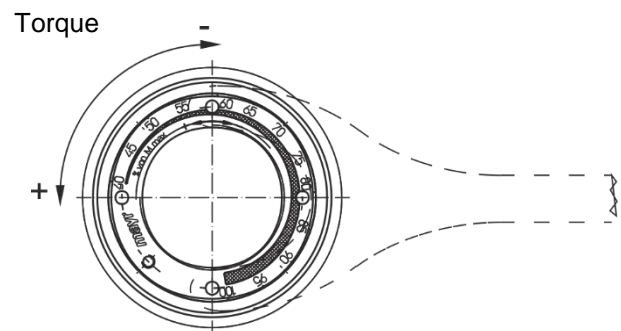

Fig. 10
- b) Loosen the 4 locking set screws (7.1) in the adjusting nut (7).
c) Turn the adjusting nut (7) using the engraved adjustment scale (Fig. 10) clockwise or anti-clockwise using a hook or a face wrench until the required torque is reached.
d) The required torque results from the marking overlap on the hub (1) and the percent value on the adjusting nut (Item 7 / Fig. 10).